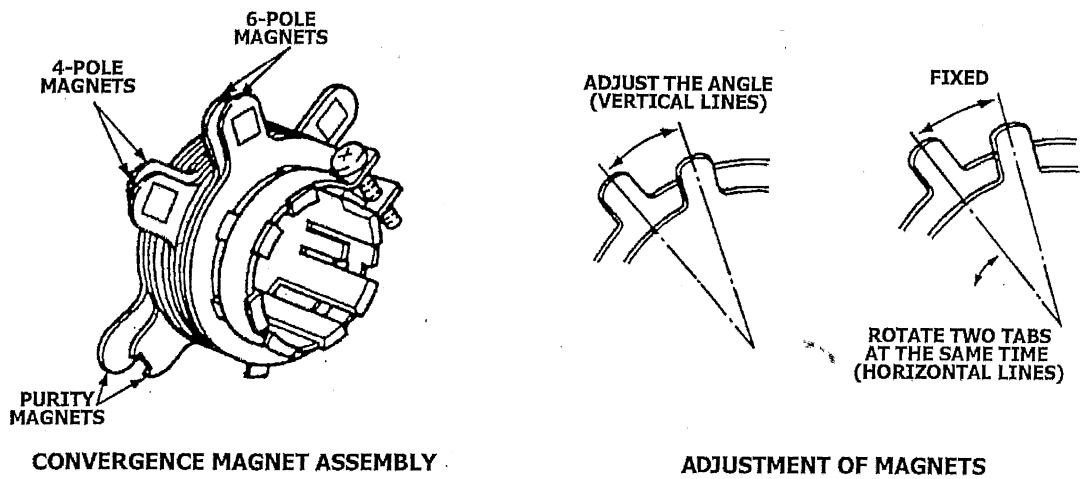

Figure 5
6. Rotate and spread the tabs of the purity magnet (See figure 5) around the neck of the picture tube until the green belt is in the centre of the screen.
3. Adjust two tabs of the 4-Pole Magnets to change the angle between them (See figure 5) and superimpose red and blue vertical lines in the centre area of the picture screen.